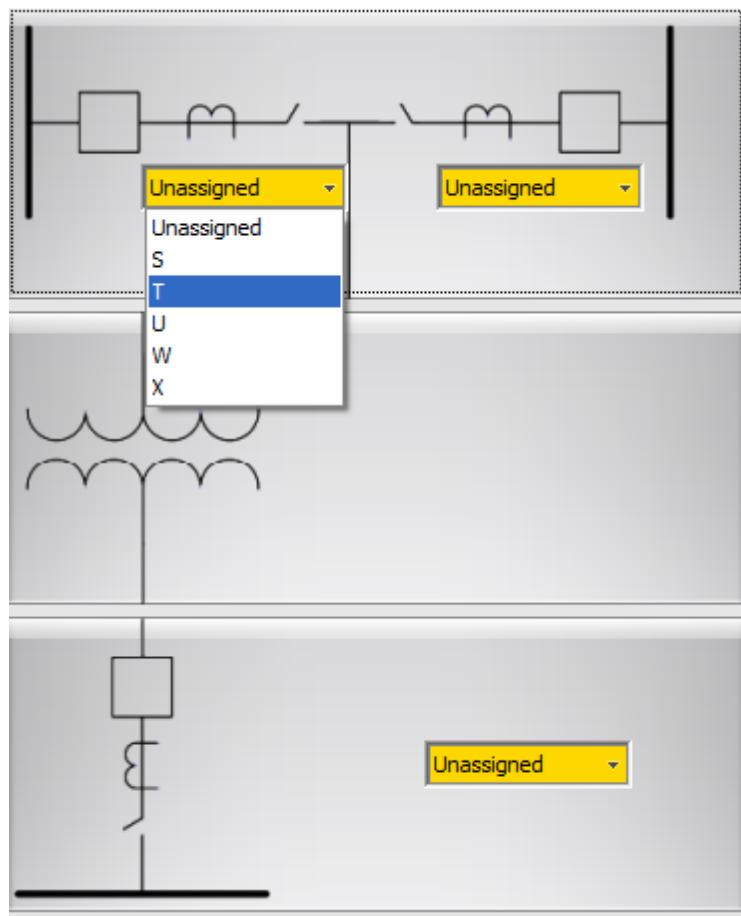

Figure 7.30 CT S Assignment
Step 6. Click the Next button to move to the screen displayed in *Figure 7.30*. The terminals and CTs are not fixed because the SEL-487E accepts widely varying substation configurations with differing CT allocations. Therefore, you must associate a terminal with each CT.
Step 7. Click in the box below CTS and observe in *Figure 7.30* that all five windings are available.